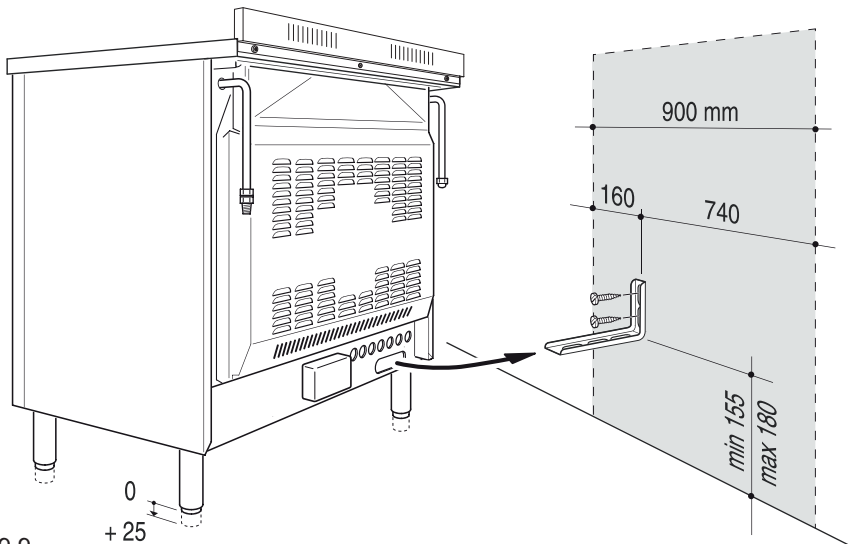

Fig. 9.9
1. After you have located where the cooker is to be positioned, mark on the wall the place where the two screws of the anti-tilt bracket have to be fitted. Please follow the indications given in fig. 9.9.
4. Move the cooker to the wall and adjust the height of the anti-tilt bracket so that it can engage in the slot on the cooker's back, as shown in fig. 9.9.